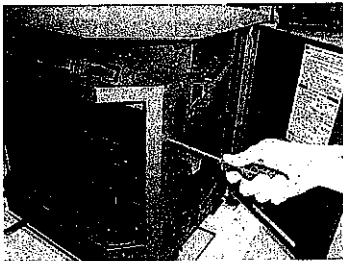

FIG. 1
5. Install brick brackets, 1 per side (enclosed with brickset kit), using the screw placement shown in Fig. 1. Two screws per side.